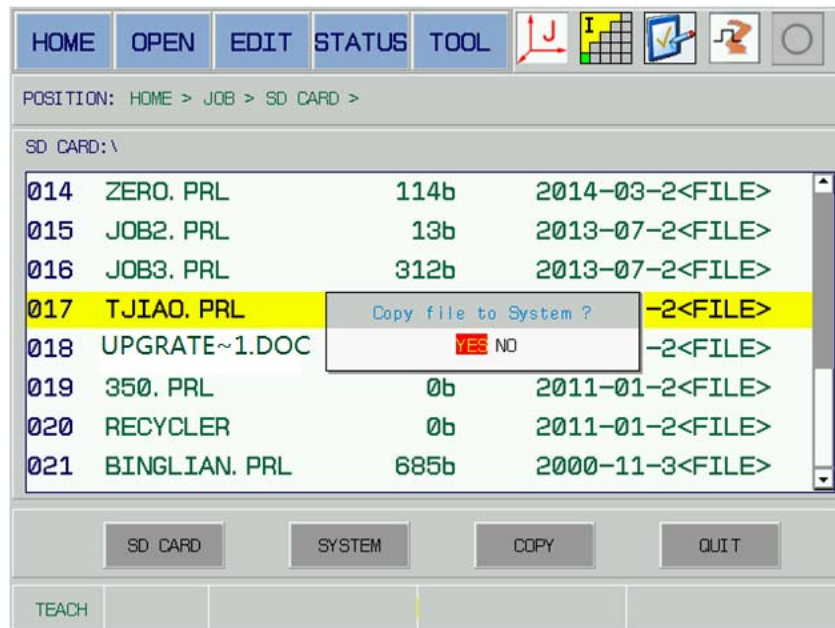

Fig. 5-26
4. Move cursor by [TAB] and up/down direction buttons, then enter the catalogue by [SELECT], return to the last layer by “Previous..”, and then move the cursor to the program ‘TJIAO.pr!’ to be copied, press [SELECT] (or shift cursor to the [Copy] button, by [SELECT] of the area 2); the system may prompt “Confirm the copied file to system?”; refer to Fig. 5-26.